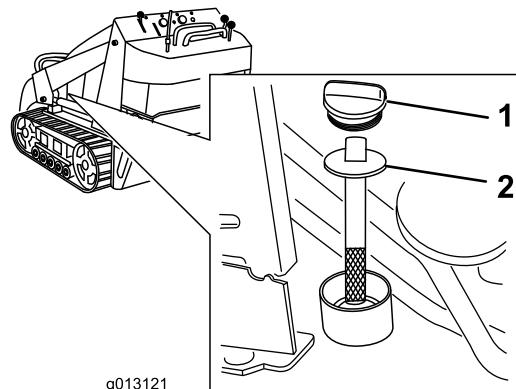

Figure 17
5. Clean the area around the filler neck of the hydraulic tank \(Figure 17\).
6. Remove the cap from the filler neck and check the fluid level on the dipstick \(Figure 17\).